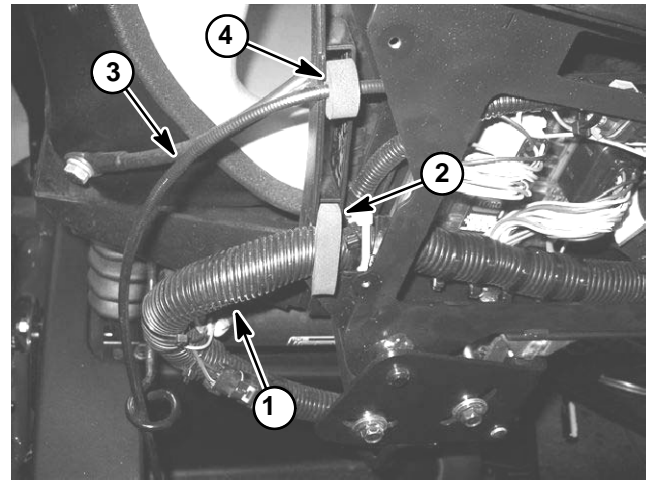

Figure 64
2. Position covers to control arm. As LH cover (item 3) is placed, plug wire harness connector to headlight switch. Also, make sure that wire harness and throttle control cable are routed correctly through cover openings (Fig. 64).
3. Secure each cover to control arm with five (5) washer head screws (item 16). Install screw (item 6) and lock nut (item 5) to secure covers at front of control arm.